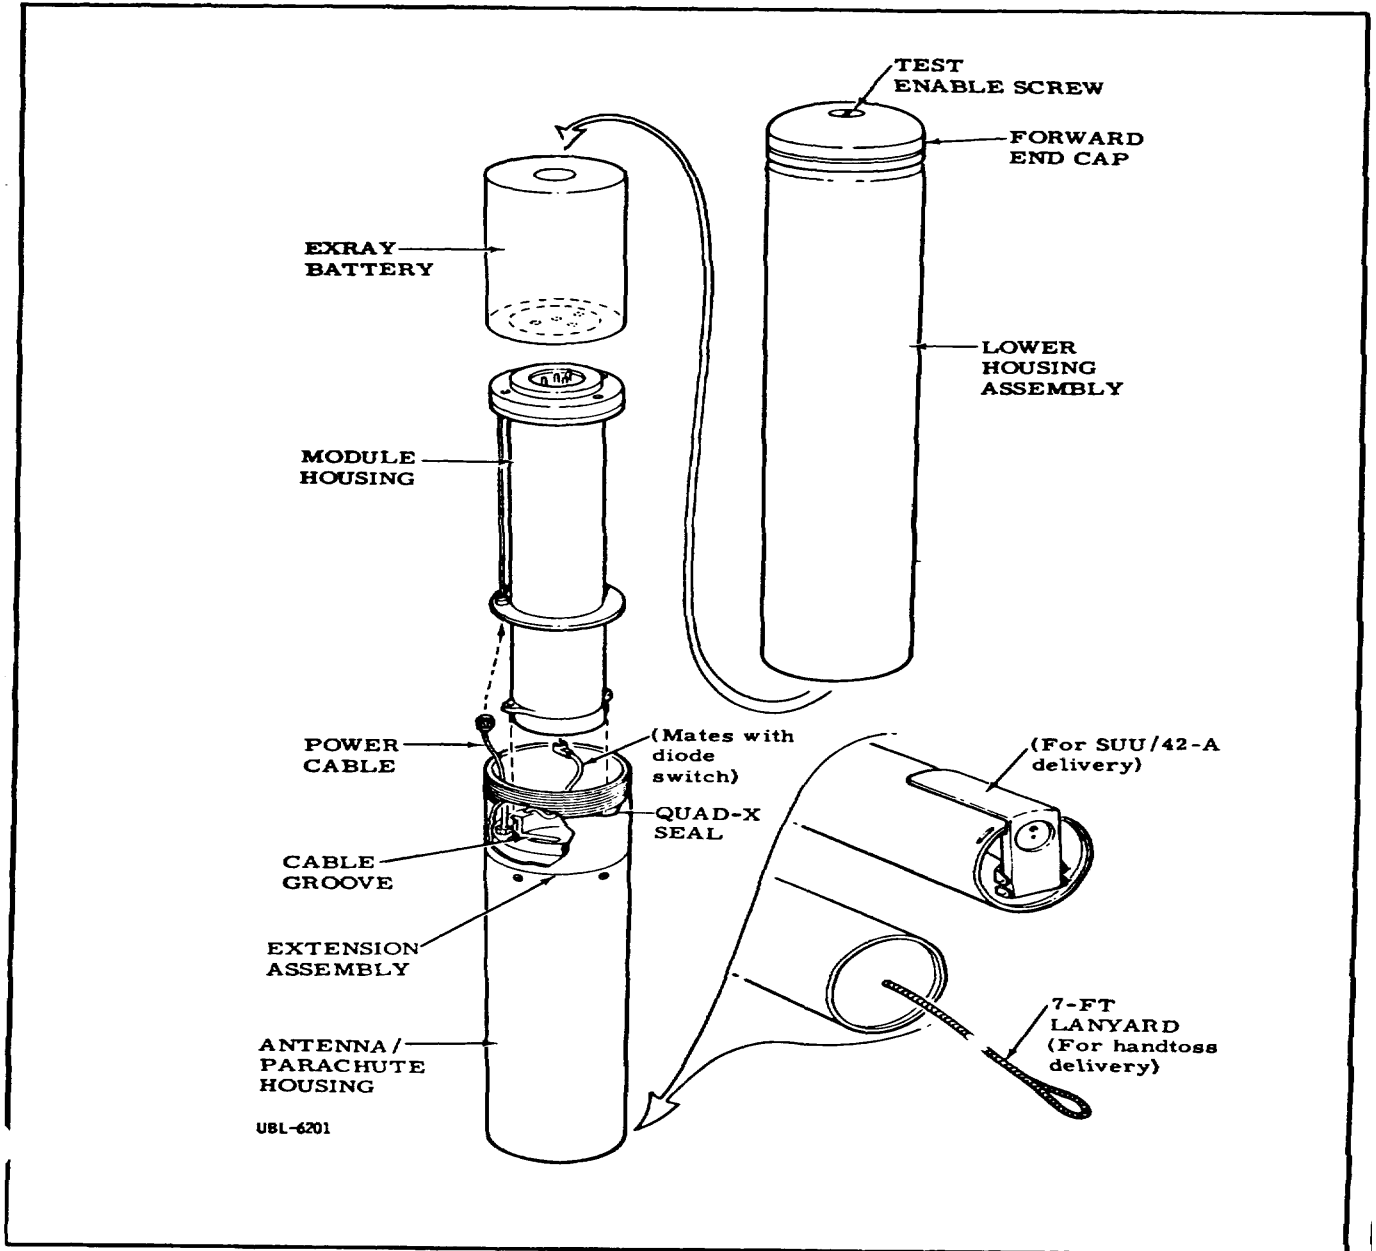

Figure 4-3D. MA56 EXRAY Exploded View
d. Position module assembly near extension assembly, mate short pigtail to TC530 Diode Switch, (figure 4-3D).carefully position cable in groove of extension assembly, and position module assembly on extension assembly
b. Remove test enable screw at forward end of MA56 (figure 4-3D)